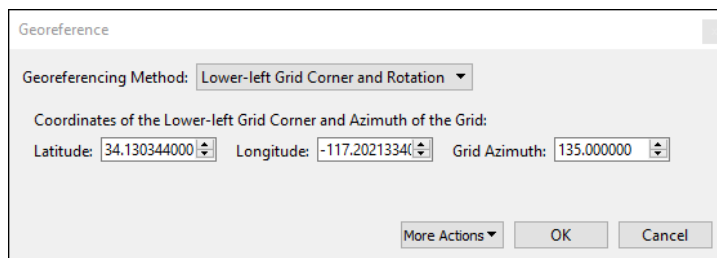

Figure 22. The Georeference dialog box
- Click the Edit button to open the Georeference dialog box (Figure 22) that allows you to edit the geo-referencing data. See the Georeference group above for details.